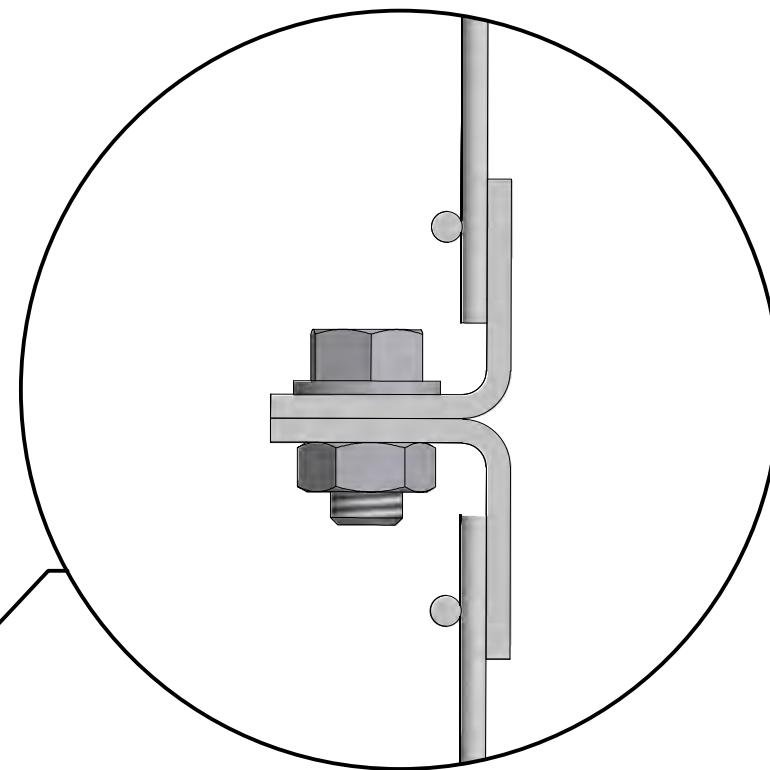

Fig. 1
3. Mount bottom panel (B) to post (A)
4. Attach opposite end of panel (B) to second post (C).
6. Install top panel (D) between posts and bolt to lower panel (B) per Fig. 1 using 3/8" x 1" nuts and bolts.